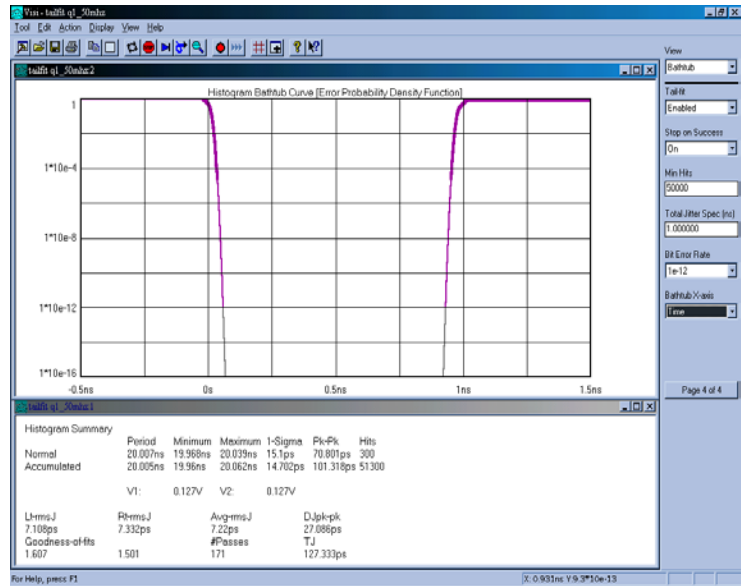
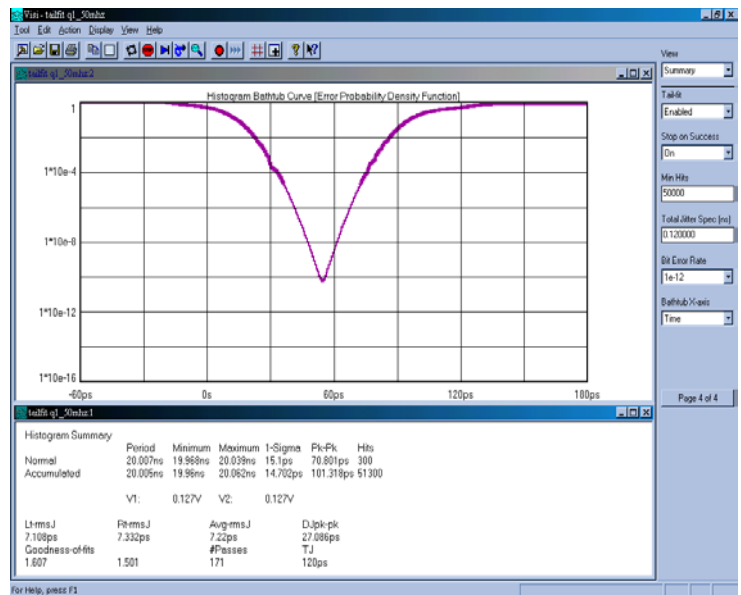

Figure 6 - Bathtub Curve
Figure 7 - Bathtub Curve showing specification failure
Figure 6 shows a Bathtub Curve also referred to as an “error probability density plot”. This plot is derived from a convolution of DJ and RJ values from TailFit™. The plot shows a view of the long-term reliability of the signal under test. Total Jitter (TJ) is extracted directly from this plot and is a pk-pk value at a specific bit error rate or number of clock cycles. The TJ value is read from the curve at the point that the color turns to gray.
The Y-axis in these examples represents a number of cycles of the clock. Figures 6 & 7 show a clock’s TJ calculated to 10^{12} cycles or 10×10^3 seconds of a 50MHz clock. In Figure 6, the specification is set to 1000 ps, so that at 10^{12} cycles or 10×10^3 seconds, Total Jitter (TJ) = 127.333ps.
A specification failure would be indicated if the lines met above the “bit error rate” set in the dialog menu. In Figure 7, the spec is set to 120ps (for the same clock used in Figure 6). Note that this plot shows TJ=120ps, since the actual TJ=127.333ps the clock failed the 120ps spec. The plot indicates that the device under test is predicted to fail the spec at just over 1×10^{-11} seconds.